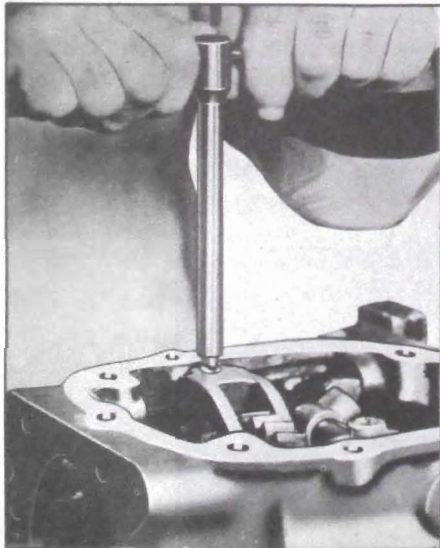
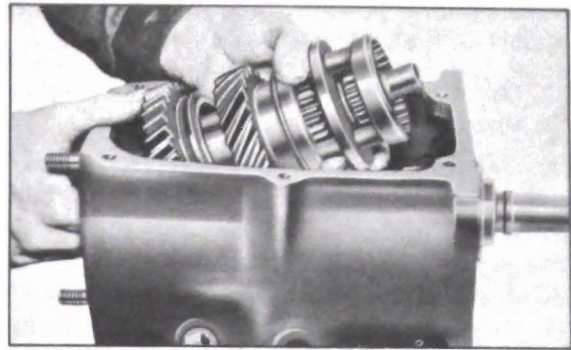

Figure 4-17—Removing Set Screw with Remover J 2895
Figure 4-18—Removing Main Shaft Assembly
9. Remove shifter yoke set screws, using Remover J 2895 (shown in fig. 4-17), then lift the main shaft and assembled parts out through top of transmission case. See figure 4-18.